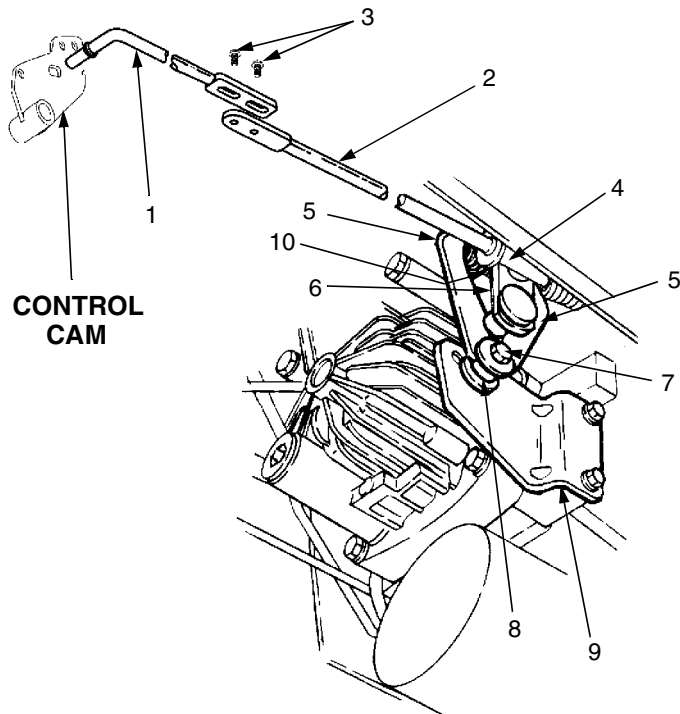

Figure 15.
- Disconnect the rear control rod from the control arm by removing the hairpin cotter from the pivot sleeve (Refer to Figure 15).
- If wheel rotation continues, loosen the locknut securing the hex cap screw and centering spacer to the neutral bracket (See Figure 15).
After completing the previous steps (1 thru 4) for checking neutral setting, adjust the control rod ( See Figure 15) as follows:
2. While making certain to not move the front control rod, control cam or control arm (See Figure 15), slide the rear control rod in the direction necessary to directly align the pin of the pivot sleeve with the lower hole of the control arm.